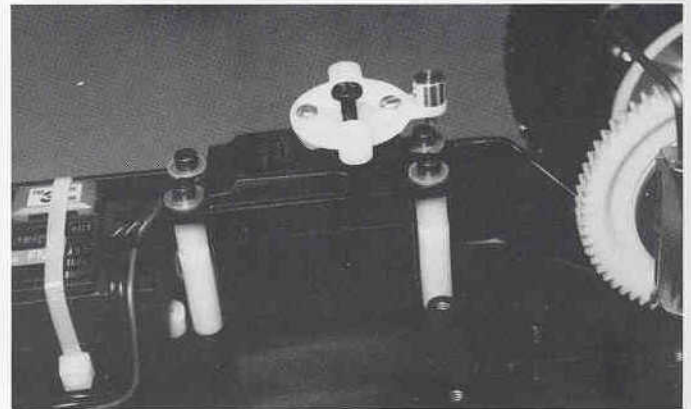

Fig. 229
□ **Fig. 229** Install the servo horn assembly onto the servo so that the #7557 throttle pivot is facing the rear of the truck. Do not completely fasten the servo horn assembly just yet.